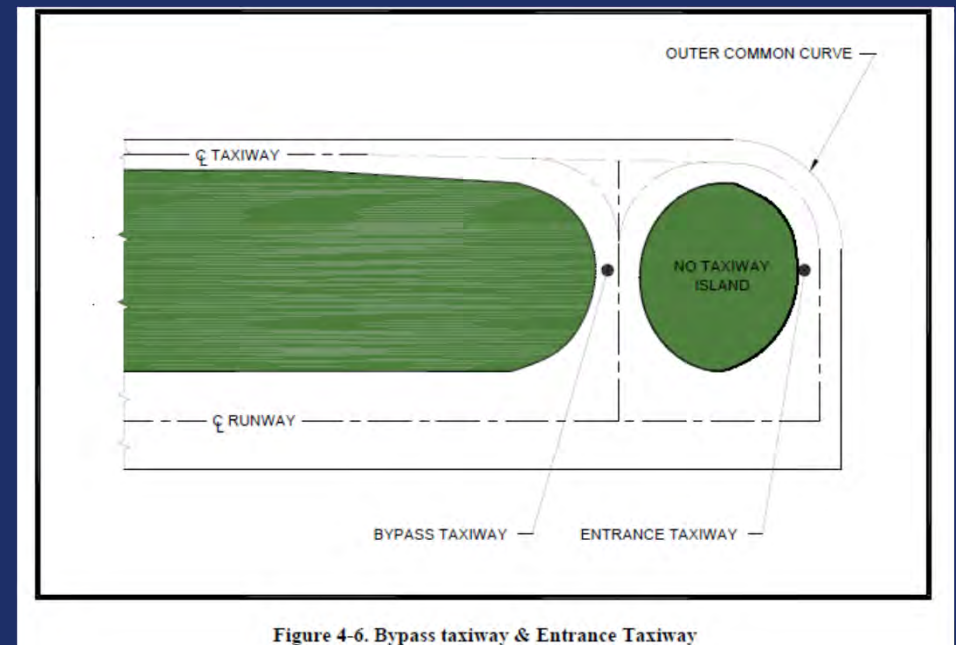

Figure 4-6. Bypass taxiway & Entrance Taxiway
d. **Mitigation of runway incursions.** Avoid the construction of wide expanses of pavement at entrance taxiways since this design has encountered runway incursions. Airports with existing wide expanses of pavement should paint the excess pavement green or use aviation grade artificial turf to make the entrance taxiway more distinctive (figure 4-6). Each distinct entrance taxiway shall have its own taxiway designator, marking and elevated signage. To minimize the landing on a parallel